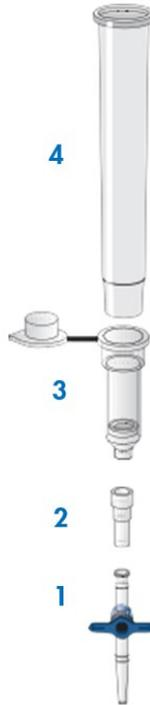

Figure 4. Assembly of QIAamp Mini columns with extension tubes (for buccal swabs or large volumes).
4. If necessary, insert an Extension Tube into each QIAamp Mini column (see Figure 4).